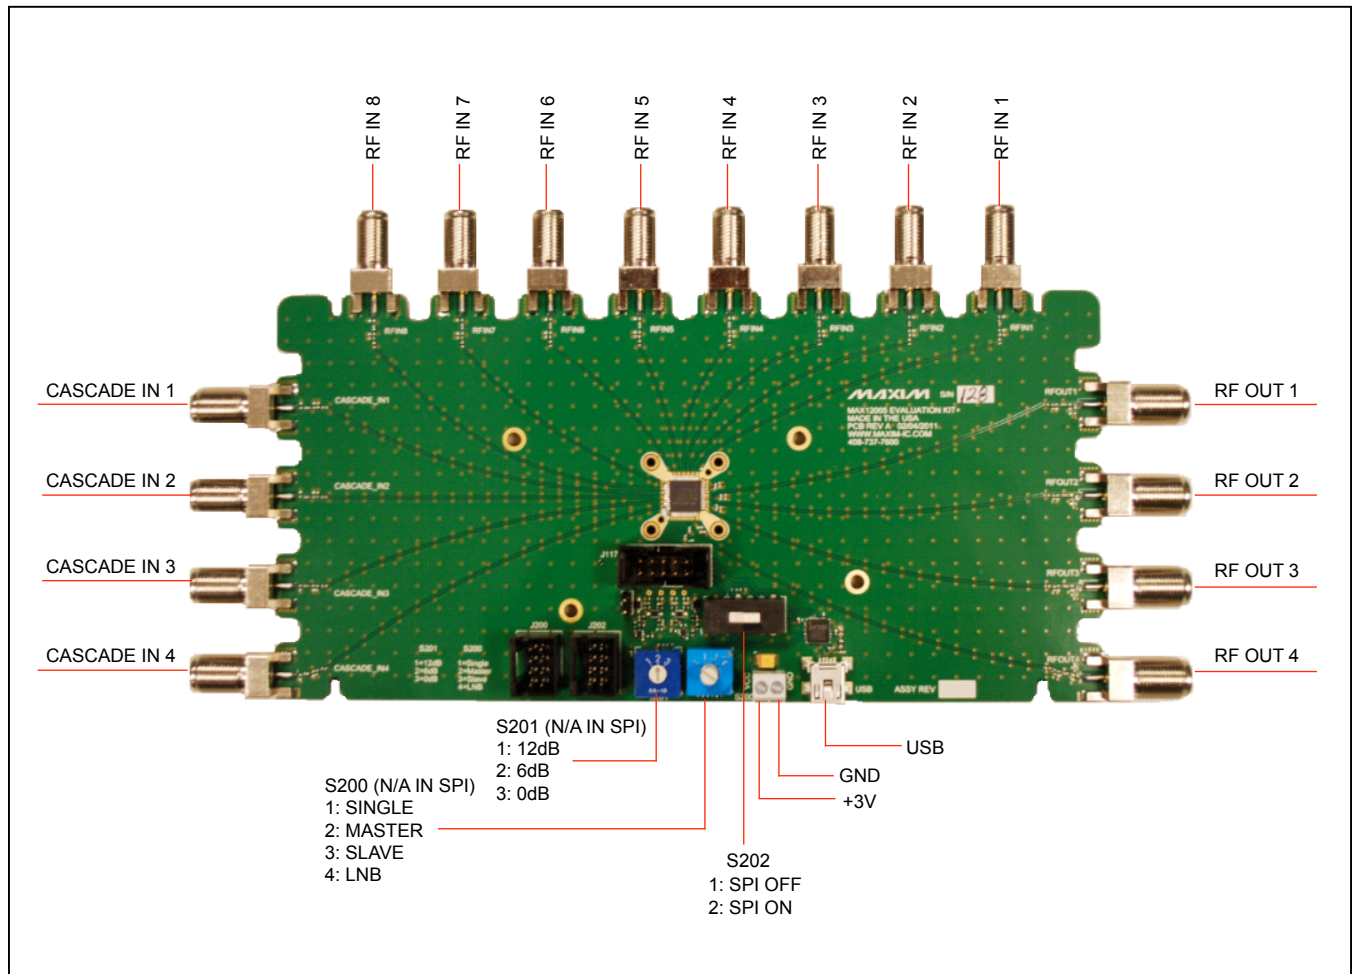

Figure 1. MAX12005 EV KIT.
- 4) Set the S202 switch on the EV Kit board to the SPI ON position (right-hand position or towards the USB connector). Figure 1 shows the location of the S202 switch.